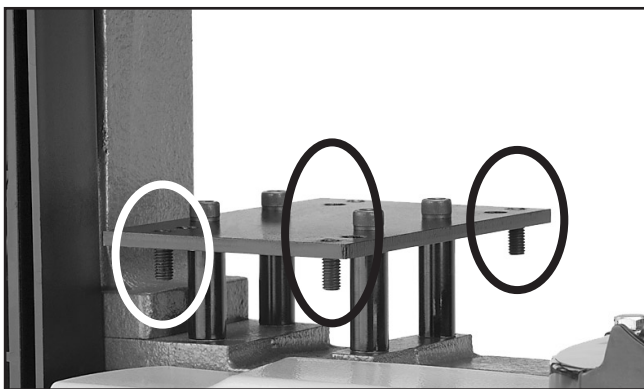

Figure 10. Set screws installed in lever board.
10. Thread the four set screws into the lever board from underneath until they are flush with the top of the lever board (**Figure 10**).